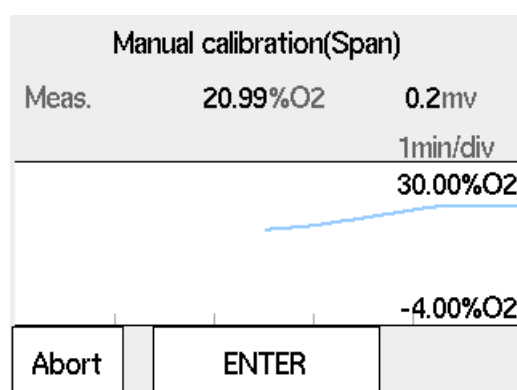

Figure 6.19 Trend during Span gas calib.
- (4) Selecting “Start calibration” displays the trend graph of the oxygen concentration being measured (Figure 6.19) on screen. Wait for the reading to stabilize around 21% by monitoring the graph and the sensor electromotive force. At this point, calibration is not yet executed. It is acceptable for the reading to deviate from 21%.